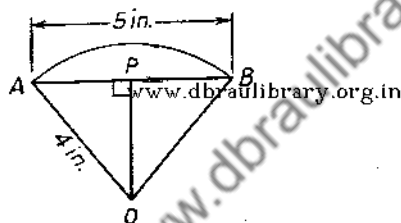

Fig. 59
(5) Calculate the area of the segment shown in fig. 59.